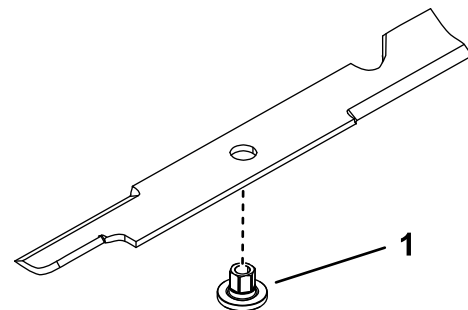

Figure 95
1. Install the bushing through the blade with the bushing flange on the bottom (grass) side of the blade (Figure 95).